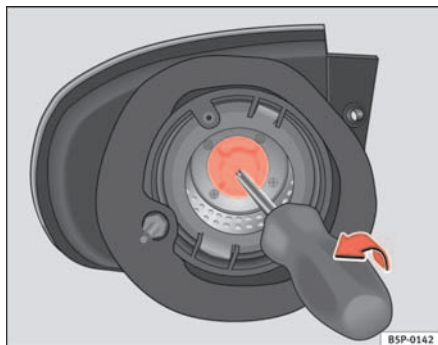

Fig. 184 Indicator lights.
- Pull out the lamp holder from the turn signal using a screw driver in the direction of the arrow (see ⇒ fig. 184)